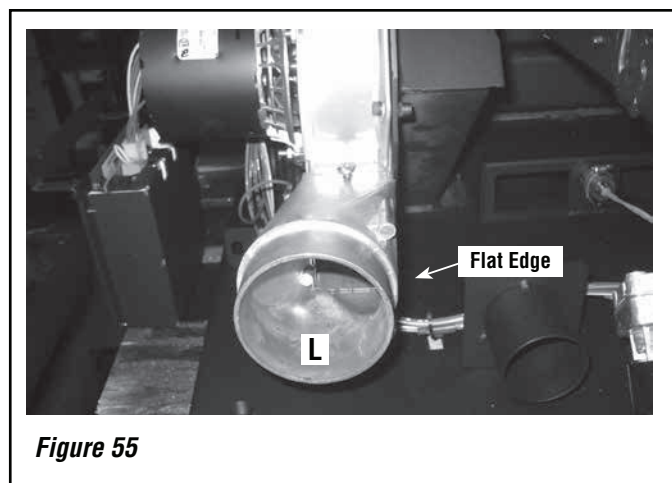

Figure 55
2. When installing the rear vent adaptor (L), ensure that the flat edge is directed towards the inside of the stove (see **Figure 55**).